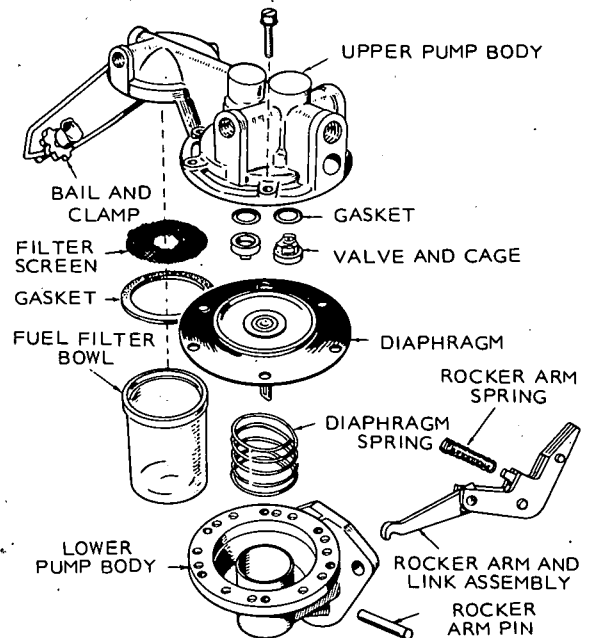

FIGURE 14. EXPLODED VIEW OF J-SERIES PUMP
Low pressure with little or no pressure leak after pumping stops indicates a weak or broken spring or worn linkage, and in most cases, the pump should be replaced. Figure 14 shows the fuel transfer pump.
2. Remove the securing screws and separate the upper and lower pump bodies (Figure 14).